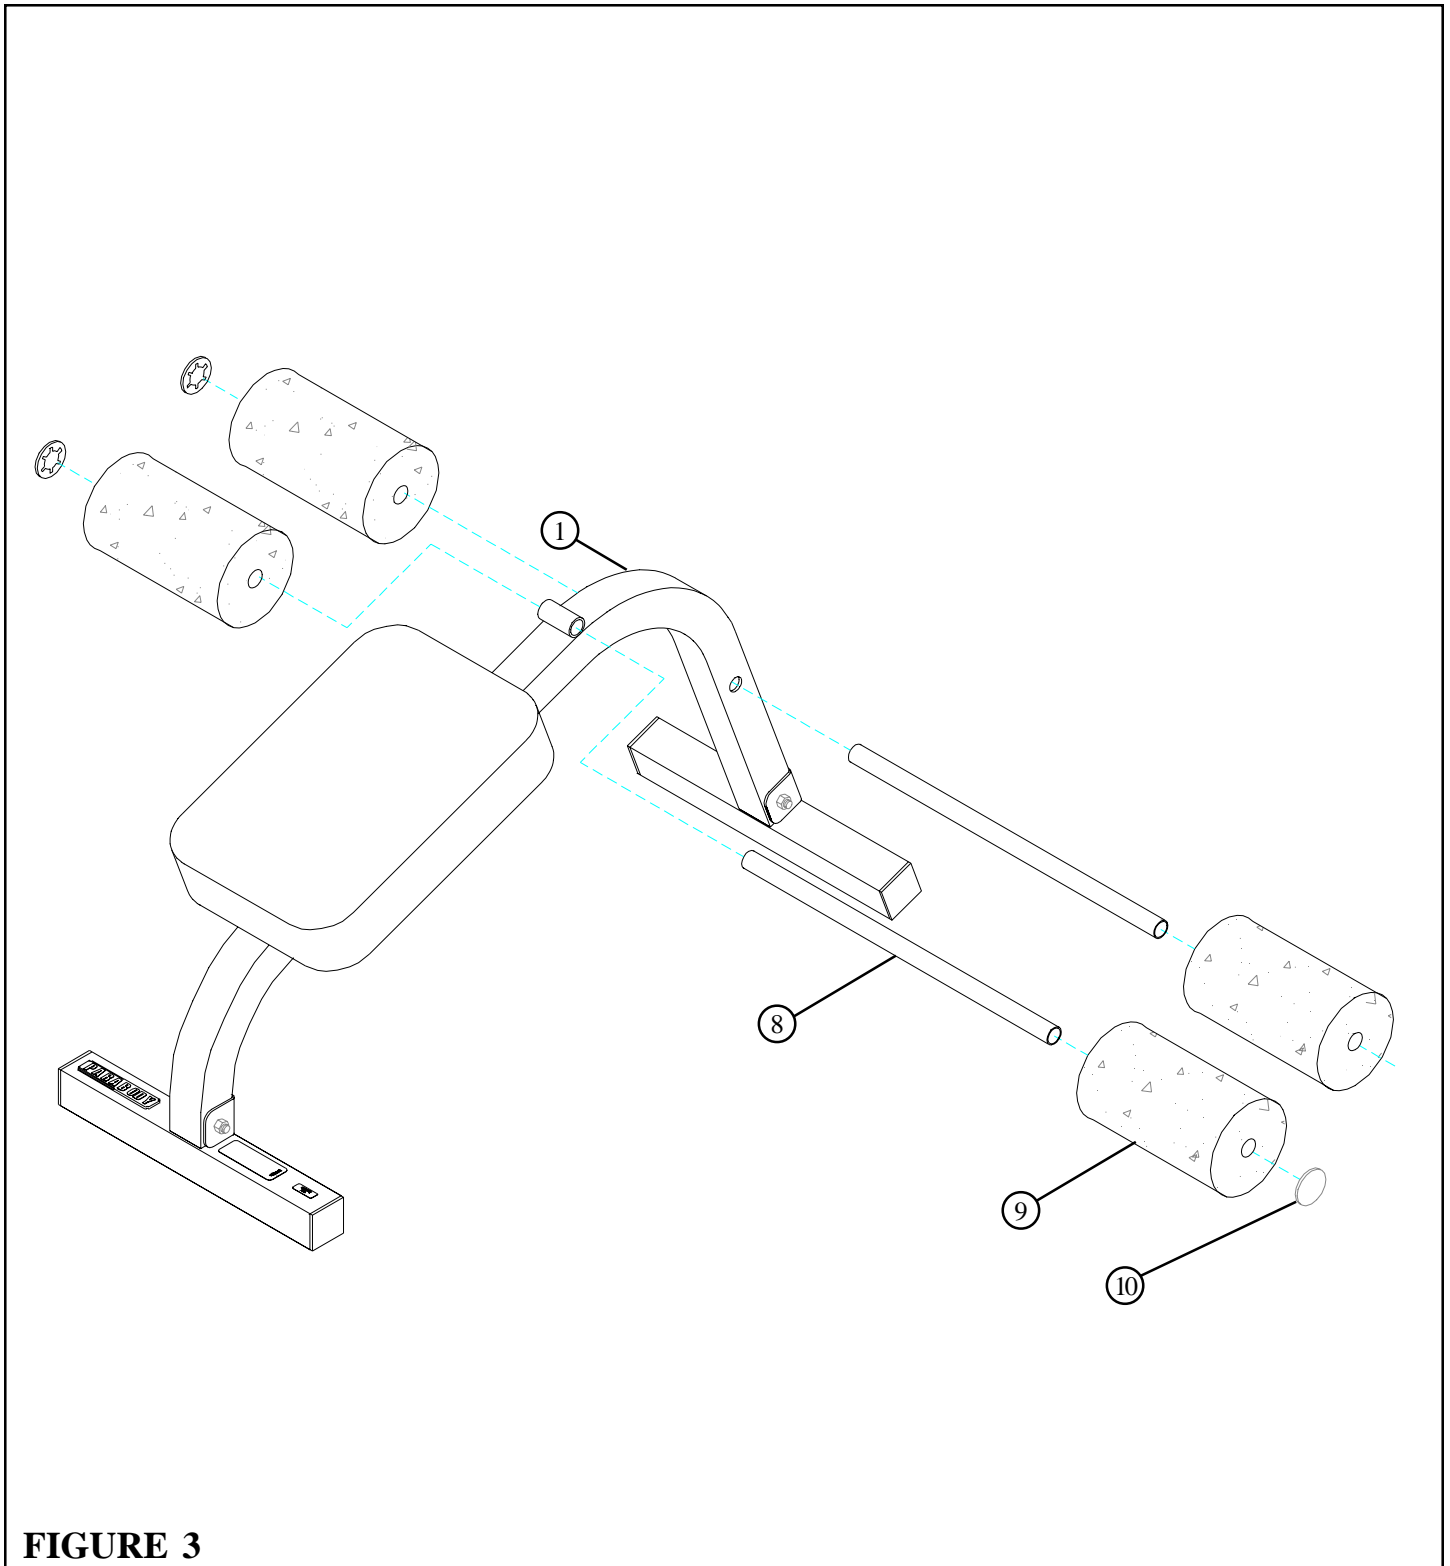

FIGURE 3
- Slide the four ROLLER PADS (9) onto two 3/4 X 16" TUBES (8) using four STARLOCK COLLARS (10) as shown in FIGURE 3.